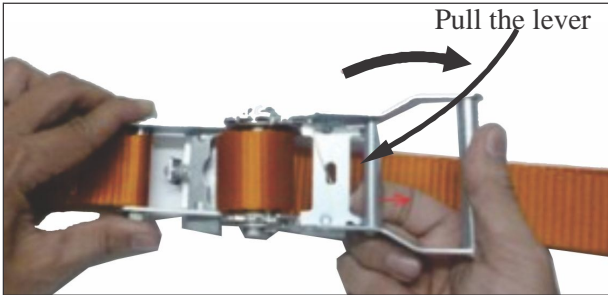

Figure 3.6
- To release the strap, open the ratchet all the way to the other side, so it lies completely flat. Once it is flat, pull and hold the release handle and open the ratchet completely. The strap will pop loose (Figure 3.6).